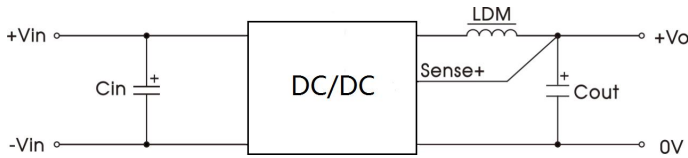

Fig. 3
Notes: ① The method is used for ripple and noise test, please refer to Fig.3 and DC-DC Converter Application Notes for specific information;
② Over-temperature protection for product is output off.
(1) During product testing and application, please follow the recommended test circuit (Fig. 3); At least one electrolytic capacitor  $C_{in}$  is guaranteed to be connected externally to suppress the possible input surge voltage; An external inductor and electrolytic capacitor are connected to output for output filtering;
(2) If the input terminal of the product is connected in parallel with a circuit with large transient energy (such as a parallel motor drive circuit), the input voltage of the product may be pulled down. At this time, pay attention to the fluctuation of the input voltage of the product, and it is recommended to appropriately increase the capacitance of the electrolytic capacitor  $C_{in}$  at the input terminal to ensure the stability of the input terminal voltage and avoid the situation where the input voltage is lower than the under-voltage protection point and cause the product to restart repeatedly;
(3) If the input and output ripple needs to be further reduced,  $C_{in}$  and  $C_{out}$  capacity of external capacitors can be appropriately increased or external capacitors with small series equivalent impedance can be selected.